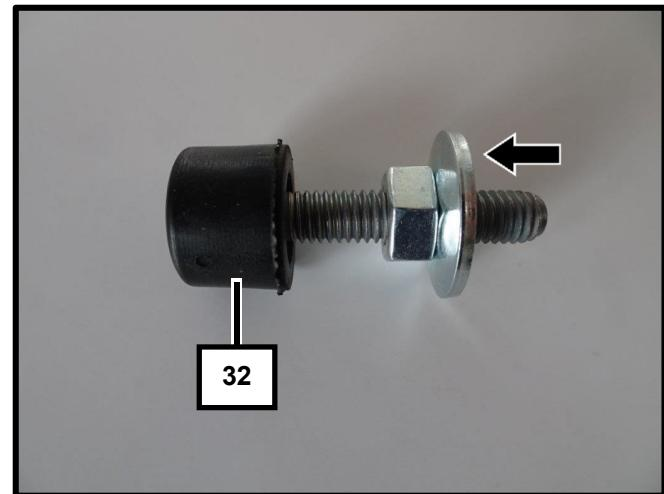

Fig. 47
- 46 Align the TECHART base frame (34) to the vehicle, for that adjust the stopper in such was that it fits to the side part, gap about 1mm.
i **Adjust the height with the stoppers (32) (Fig. 47 and 48) in such way that the base frame fits perfectly.**